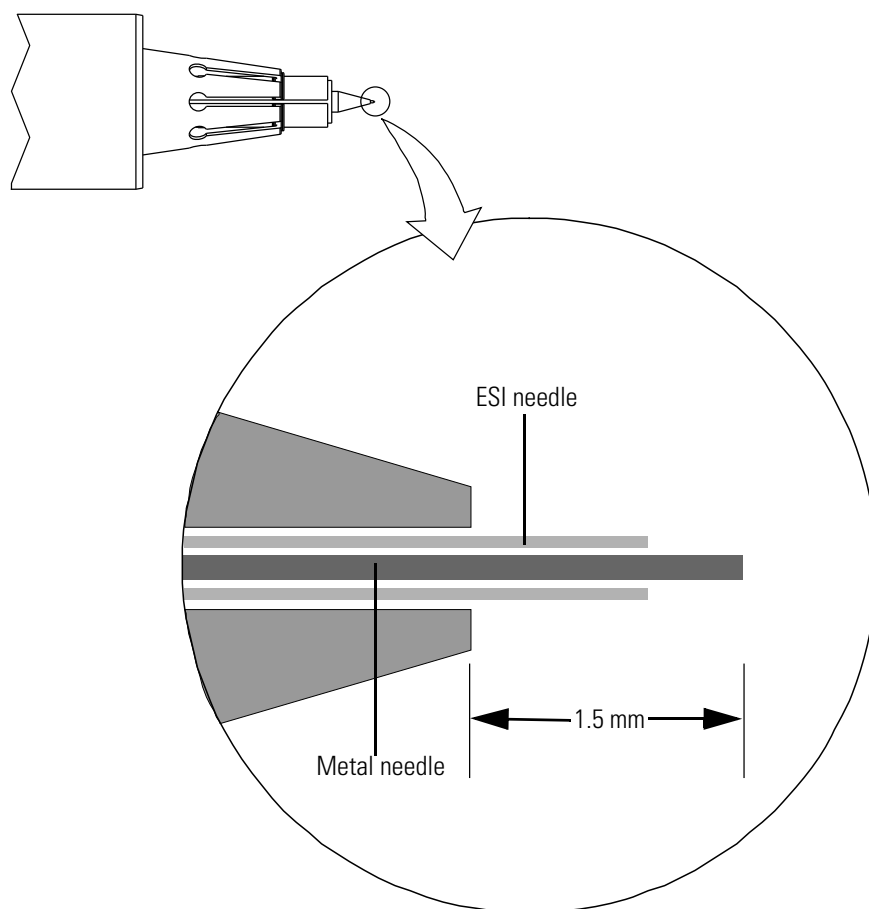

Figure 8-28. HESI-II probe nozzle (exploded view)
5. Hand tighten the adjustable union fitting until the tip of the needle insert protrudes from the probe nozzle by 1.5 mm (Figure 8-28).